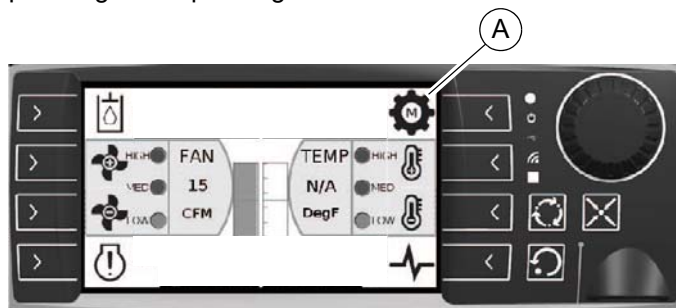

Figure 3-6. Mode Icon
See Figure 3-6. The Mode icon (A) displays on various pages. When it displays, change controller mode by pressing corresponding button once.